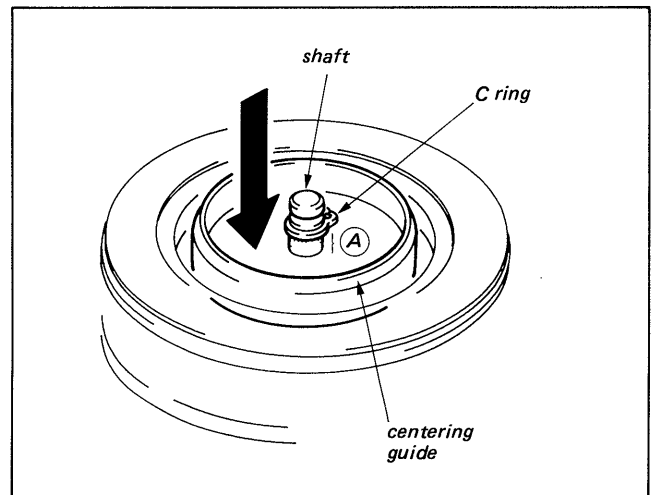

Fig. 3-2
When pressing the centering guide with the finger, confirm that the centering guide is lowered smoothly. If centering guide is not lowered smoothly, lubricate the shaft (A) portion in Fig. 3-2 with an extremely small amount of grease.